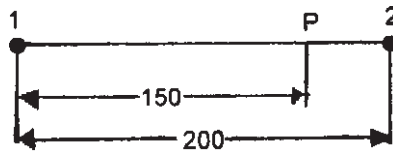

Fig.3
- b)** In Fig. 3, temperature at node 1 is 100° and at node 2 is 40°C . The length of the element shown is 200 mm. Evaluate the shape function associated with node 1 and node 2. Calculate the temperature at point 'P' situated at 150 mm from node 1. Assume a linear shape function. [8]